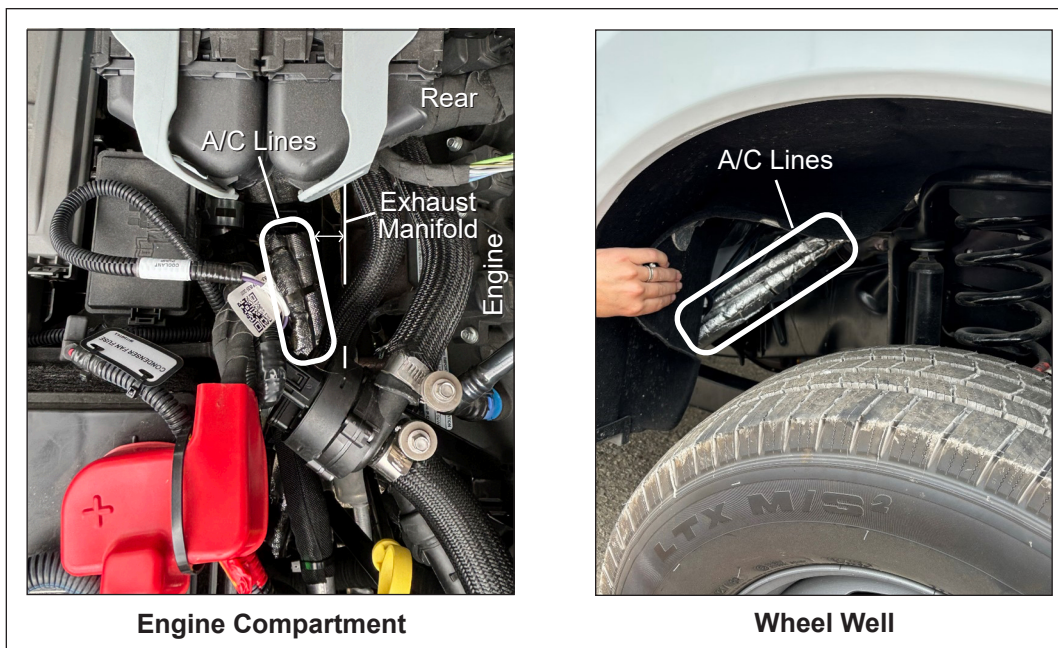

Figure 1 — Locating the A/C Lines
3. Locate the A/C lines by opening the hood of the chassis and viewing the engine block from the curb side (refer to Figure 1). If the lines are not visible, use your hands to carefully pull back the curb side inner fender/fender liner to access the lines from below the chassis (refer to Figures 1).